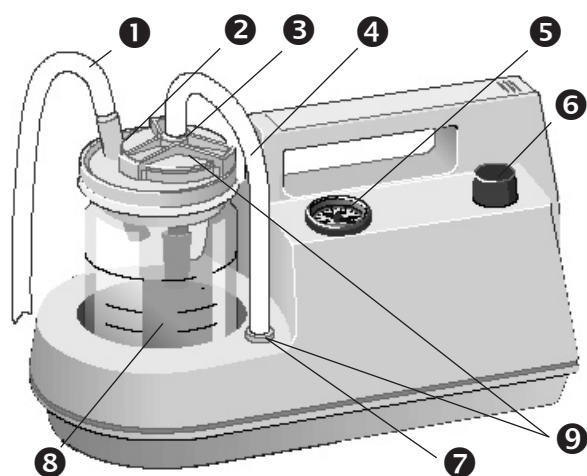

Fig. 1. ATMOS LC 16
- Join suction hose (①, fig. 1, page 4) with the attachment (②, fig. 1, page 4).
- Connect silicone hose (④, fig. 1, page 4) to filter attachment (⑤, fig. 1, page 4) and attachment on the unit (⑦, fig. 1, page 4) (pay attention to green signal ring).